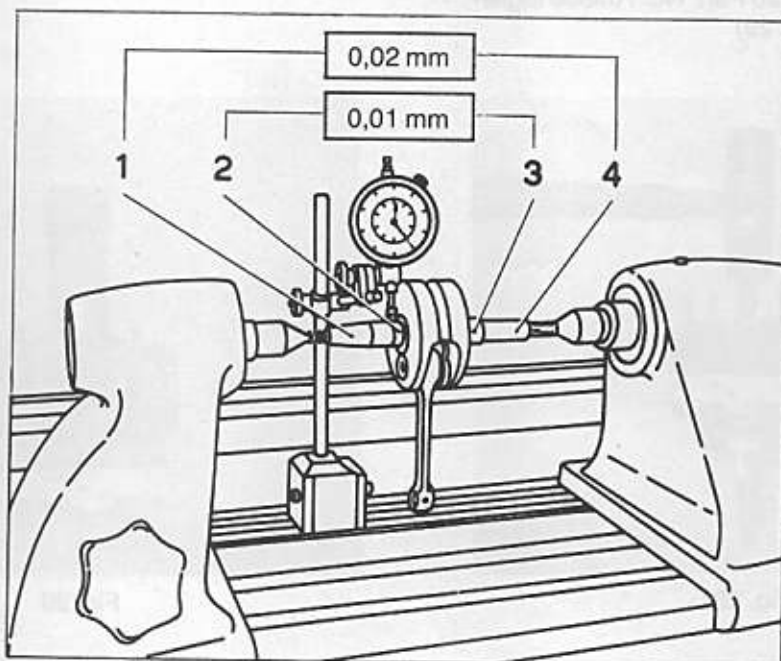

Fig. 34
- 3. A coaxial fitting of crankshaft halves is accomplished between the two tips (Fig. 34) by measuring at the indicated points.
3. Per il controllo del montaggio coassiale dell'albero motore eseguire la misurazione come indicato in Fig. 34